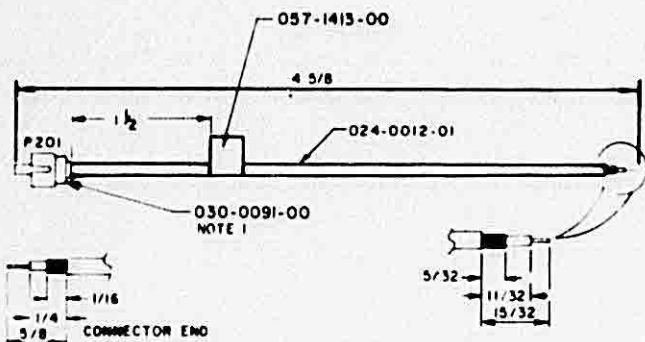

FIGURE 6-11a DUPLEXER CABLE, RCA TRANSMIT OSCILLATOR
- x) Detected transmitter pulses should be 0.45 ± 0.05 wide. Adjust the pulse width by R429 (A-2) if necessary. See Figures 6-11a, 6-11b, and 6-11C for replacement of r. f. cables.
- y) The peak power output for a KT 76 is 200 watts minimum and 113 watts minimum for a KT 76. Check to see that the transmitter has sufficient output power. Adjust GE Transmit Oscillator by 6.4.6 step b. If the diplexer transmit cable is replaced, the new cable should be constructed as shown in Figures 6-11a or 6-11b.